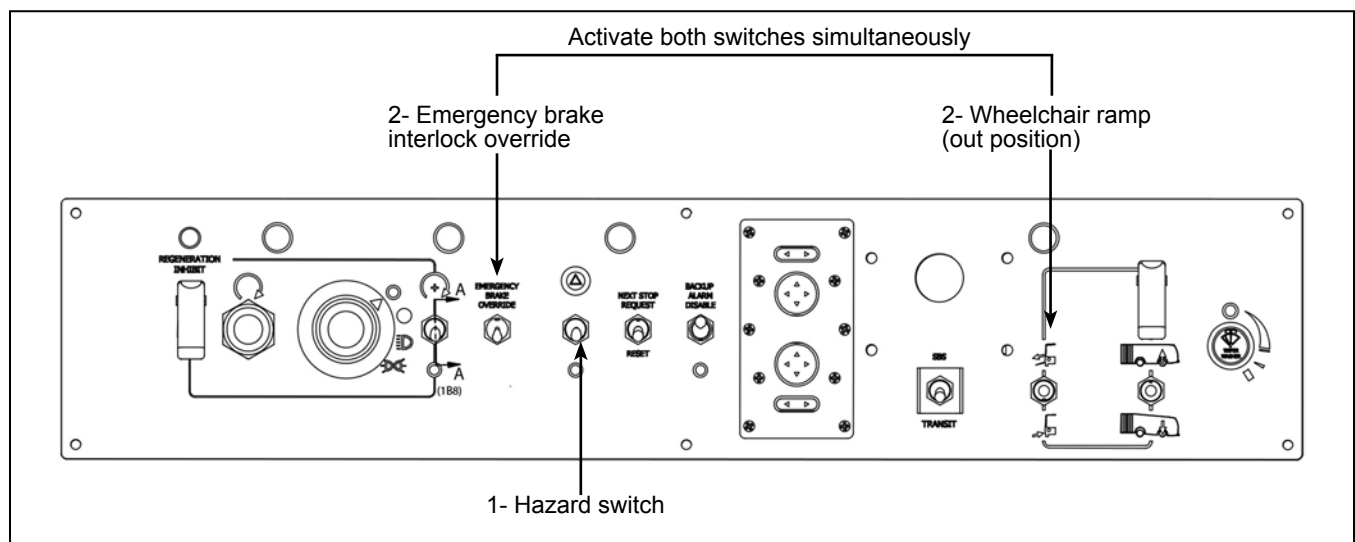

Figure 1 - Switches to Activate New IO Module Reprogramming
- 1.6. Simultaneously activate the **EMERGENCY BRAKE INTERLOCK OVERRIDE** and **WHEELCHAIR RAMP** (out position) switches. See Figure 1.